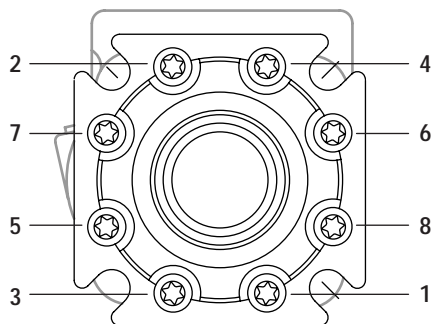

Figure 14
**27** Lubricate threads of 8 screws with a film of light oil. Install and finger tighten screws. Clamp bearing housing in vise. Torque screws to 6 Nm [50 lb-in] in sequence (see Figure 14). Then final torque to 34 Nm [300 lb-in], in sequence. Install key (when used) in keyway of shaft.